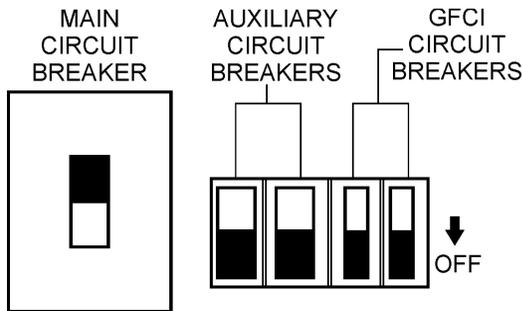

Figure 47. Main, Aux. and GFCI Circuit Breakers (OFF)
1. Place both the **MAIN, GFCI and LOAD** circuit breakers as shown in Figure 47 to the **OFF** position.